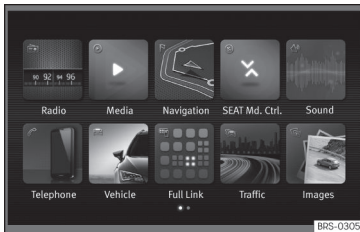

Fig. 48 Easy Connect: Main menu.
- Press the Infotainment button  and then the **Vehicle** function button  **»» Fig. 48.**